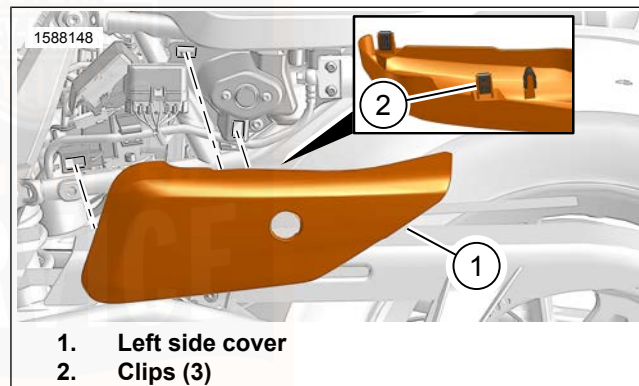

Figure 83. Left Side Cover (RH1250S)
1. See Figure 83. Pull left side cover (1) with clips (2) away from vehicle.